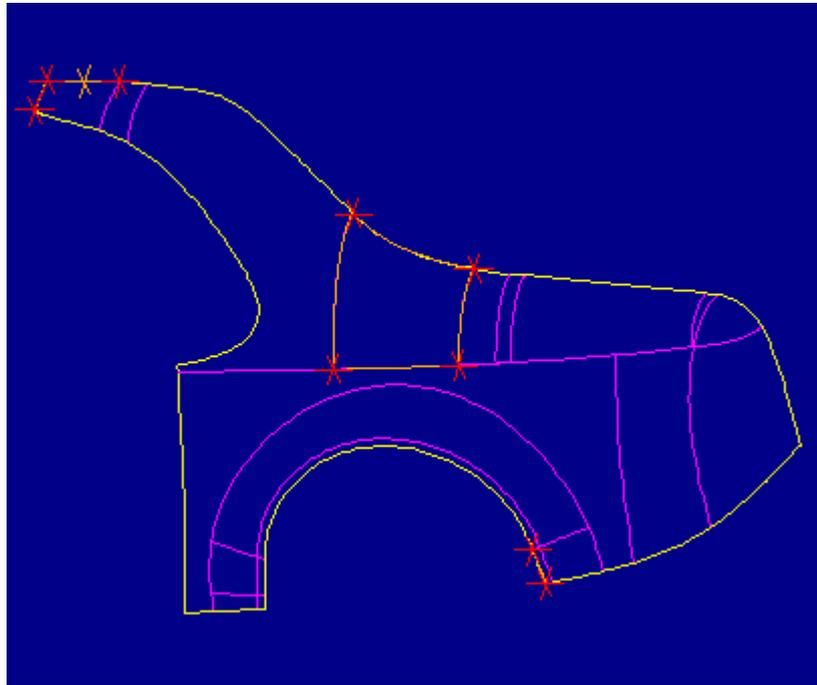

Figure 42
27. In the REDEF IMPT menu select **Heal Geometry, Manual, FixQuiltBndry**. Figure 42 shows the edge chains that have been automatically selected. **FixQuiltBndry** proposes the automatic replacement of these chains/edges that are nearly tangent and almost an isoline with isolines of the surfaces. Note that **FixQuiltBndry** searches all one-sided edges in the import feature for selection (including those that belong to excluded surfaces).